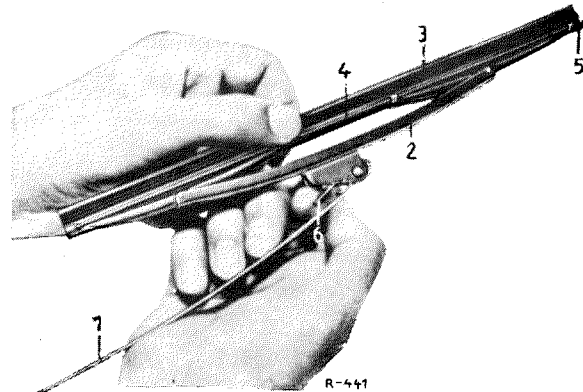

Fig. 82 — 7/1
1. Lift the wiper arm (1), with the wiper blade, away from the windshield. Press down the spring (6) on the wiper blade (2) and push the wiper blade out of the anchorage in the direction of the wiper shaft (Fig. 82 — 7/1).